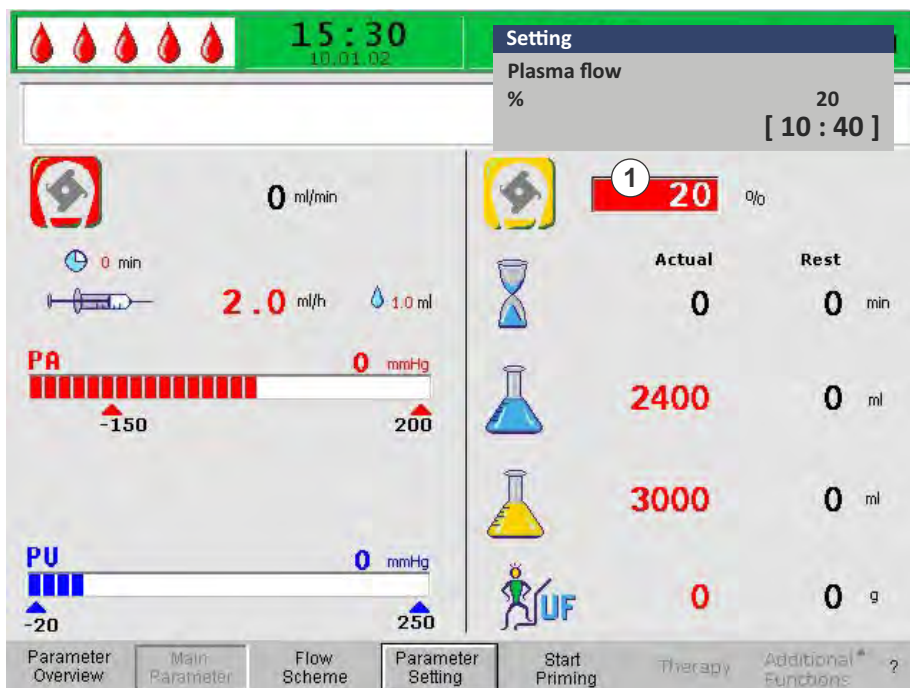

Fig. 2-19 Parameter setting in the *Main Parameter* screen
- ↪ The parameter value field is shown with a red background and white labeling (Fig. 2-19, ①).